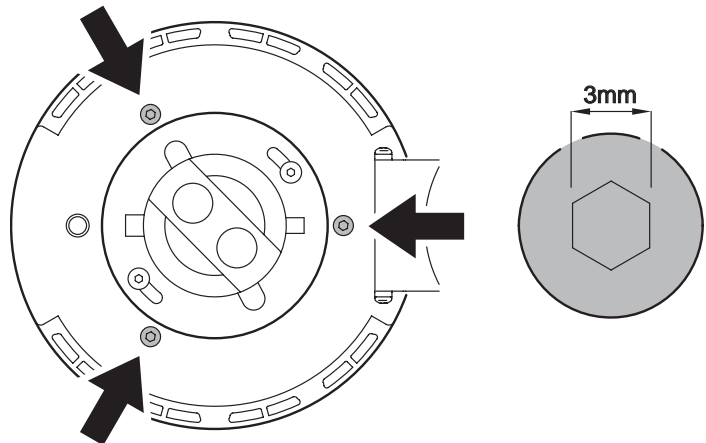

Figure 3: Lamp adjustment screws
5. See Figure 3. Screw the three 3 mm Allen screws (arrowed) in or out to obtain the most even beam.